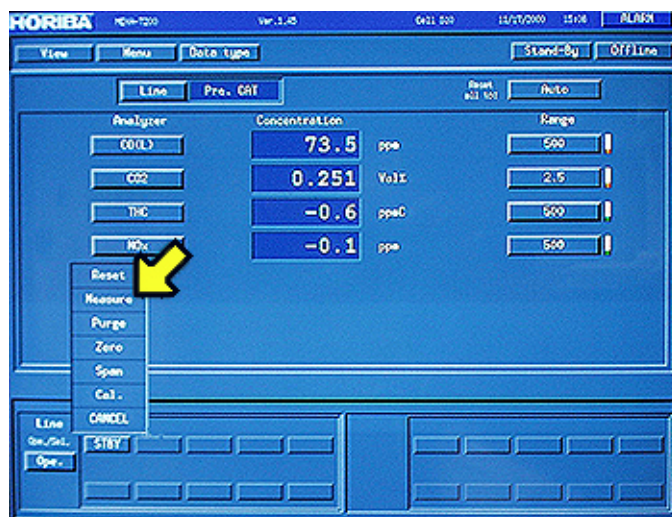

Figure 9
- 112 From the selections that appear, select "Measure" See the arrow in Figure 9.